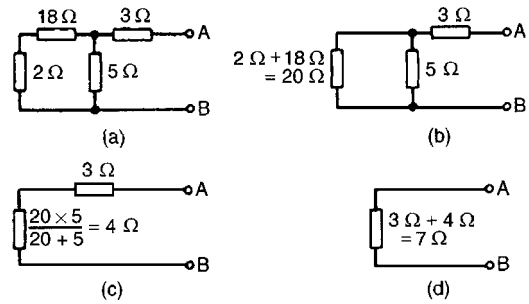

Figure 13.32
- (iv) The resistance ‘looking-in’ at terminals AB in Fig. 13.32(a) is obtained by reducing the circuit in stages as shown in Figures 13.32(b) to (d). Hence the equivalent resistance across AB is $7\ \Omega$.